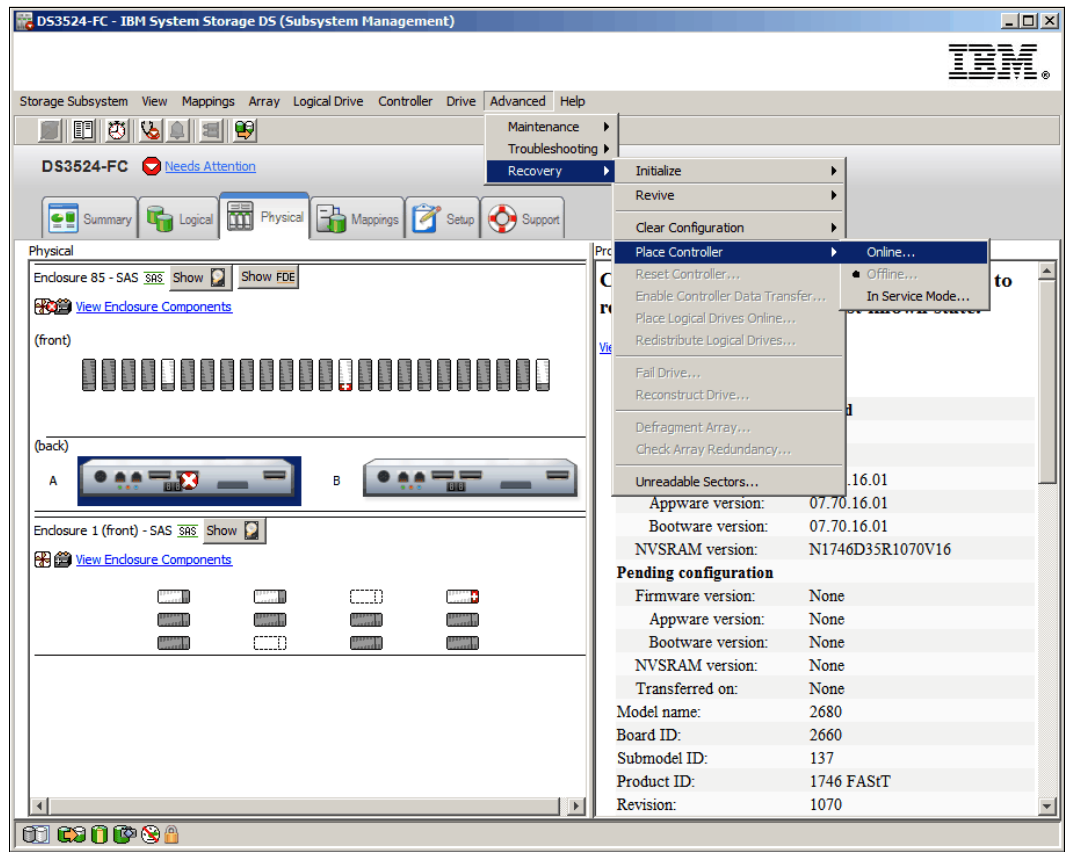

Figure 14-132 Place controller online
1. Select the controller in the Physical tab of the DS Storage Manager (Subsystem Management) window and then click **Advanced** → **Recovery** → **Place controller** → **Online** as shown in Figure 14-132 on page 419.